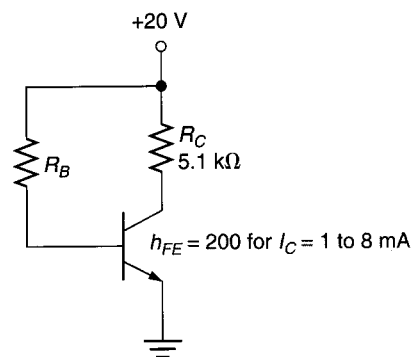

FIGURE 7.44
49. The transistor in Figure 7.44 has a value of  $h_{FE} = 200$  for  $I_C = 1$  to 8 mA. The value of  $V_{CE(sat)}$  for the component is 0.3 V. Derive the collector curves for the device for  $I_C = 1$  to 4 mA and  $V_{CE} = 0$  V to  $V_{CE(off)}$ . Then, plot the dc load line for the circuit on the collector curves to determine the value of  $I_B$  required for mid-point-bias operation.